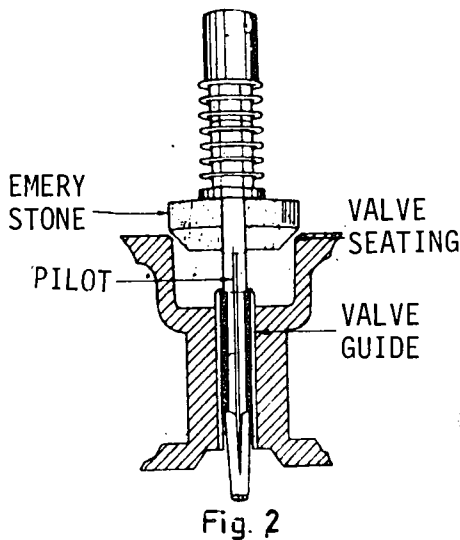

Fig. 2
- b) Insert the guide shaft of the stones in the valve guide and secure it to the latter (fig. 2).